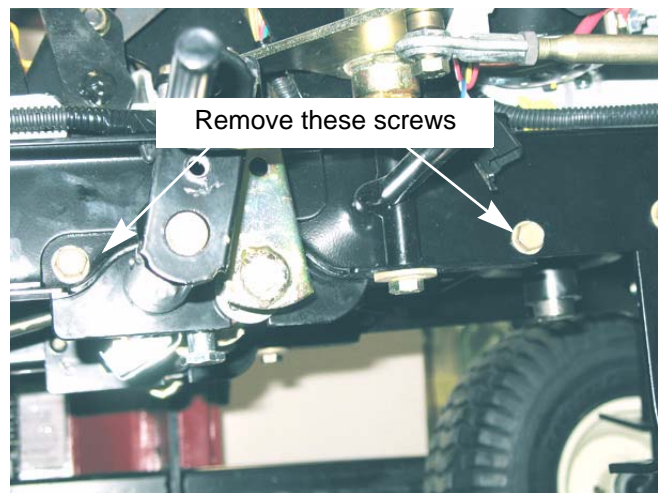

Figure 3.20
3. Remove the four screws (two on each side) that hold the sub-frame in place and slide it down. See Figure 3.20.